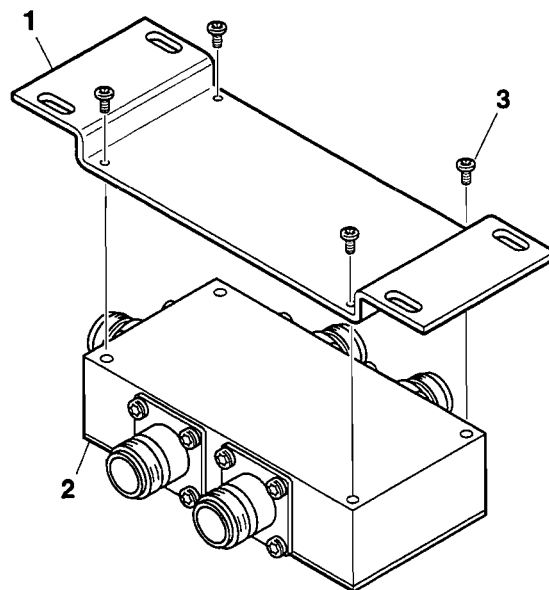

Figure 2. Distribution Amplifier and Mounting Bracket
7.4. Refer to Figure 2. A mounting bracket (1) is available for the HP 58516A distribution amplifier (2). Four screws (3) attach the bracket to the amplifier. For ordering information, see "Parts Required," above.
7.7. The distribution amplifier has four "blind" screw holes located on the back of the case (see Figure 2). Position the distribution amplifier so that the four blind holes in the amplifier case line up with the four mounting holes at the edges of the mounting bracket. Fasten the distribution amplifier to the bracket using the four screws.